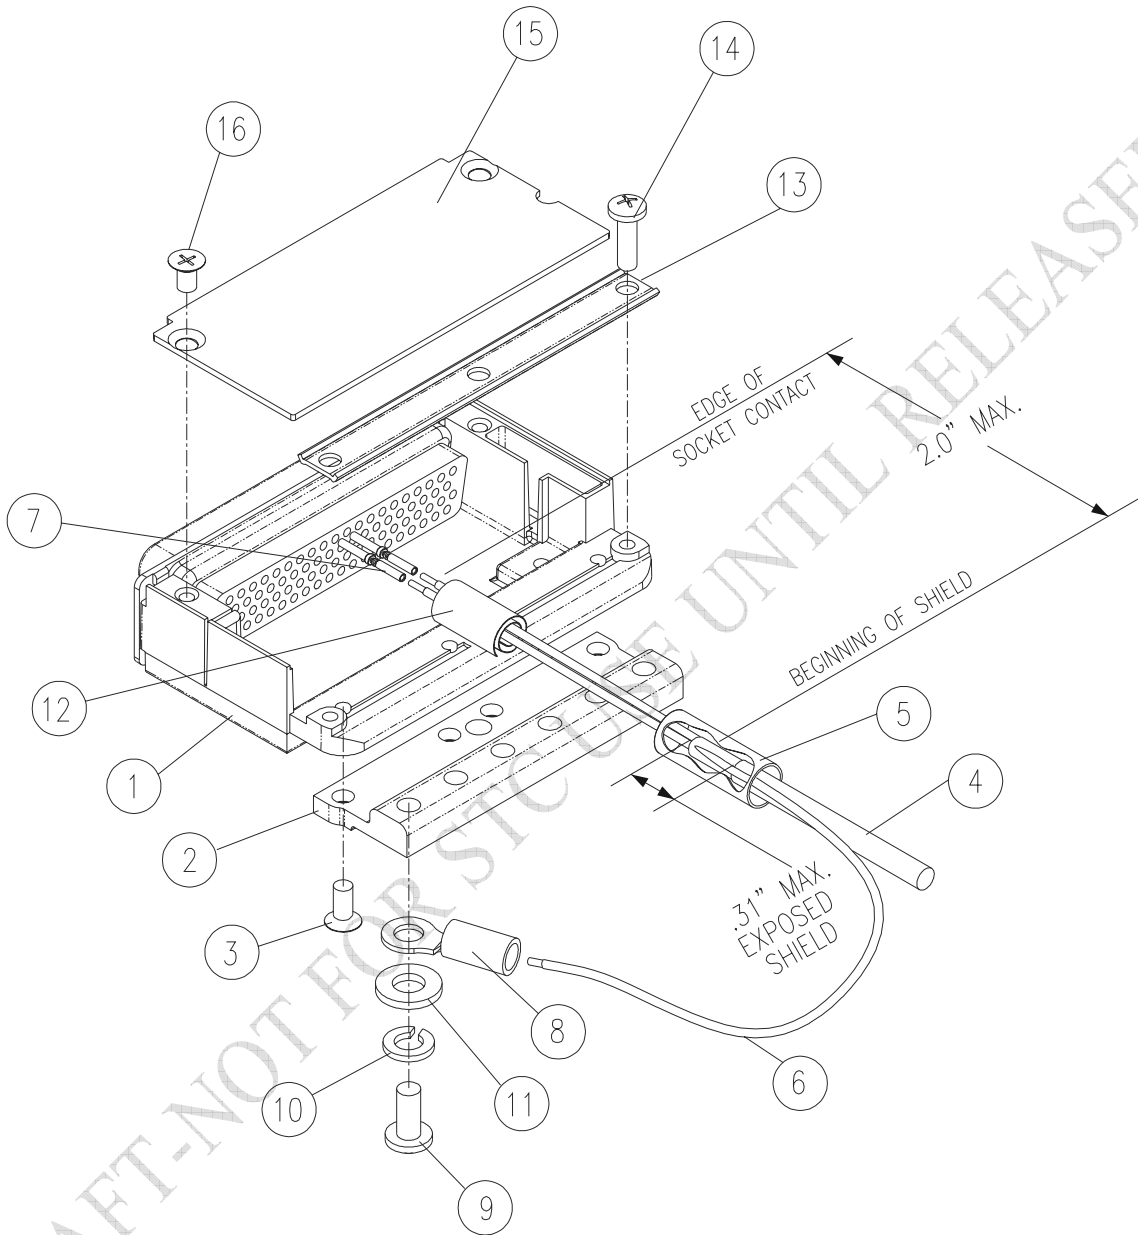

Figure 2-9. Typical Shield Block Install onto Backshell Connector Assembly
The parts for the connector and backshell assembly for GRT 10 installations are listed in Table 2-9 and shown in Figure 2-9.
1. Attach the Shield Block (2) to the backshell (1) by inserting the flathead screws (3) through the holes on the Shield Block and threading into the tapped holes on the backshell (1). (See Figure 2-9).
The GDL 69/69A has a zero to 10dB variable attenuator that is used to balance the gain/loss component between its RF input and internal XM Receiver. The gain/loss components can be adjusted between +6dB and -4dB to balance the Antenna input to XM receiver 20dB gain requirement as specified for the XM system. The Gain/Loss component is factory preset with a default value of -0.5 dB. Using the Signal Gain Equation shown in Figure 2-9 and solving for the GDL 69/69A component the equation becomes